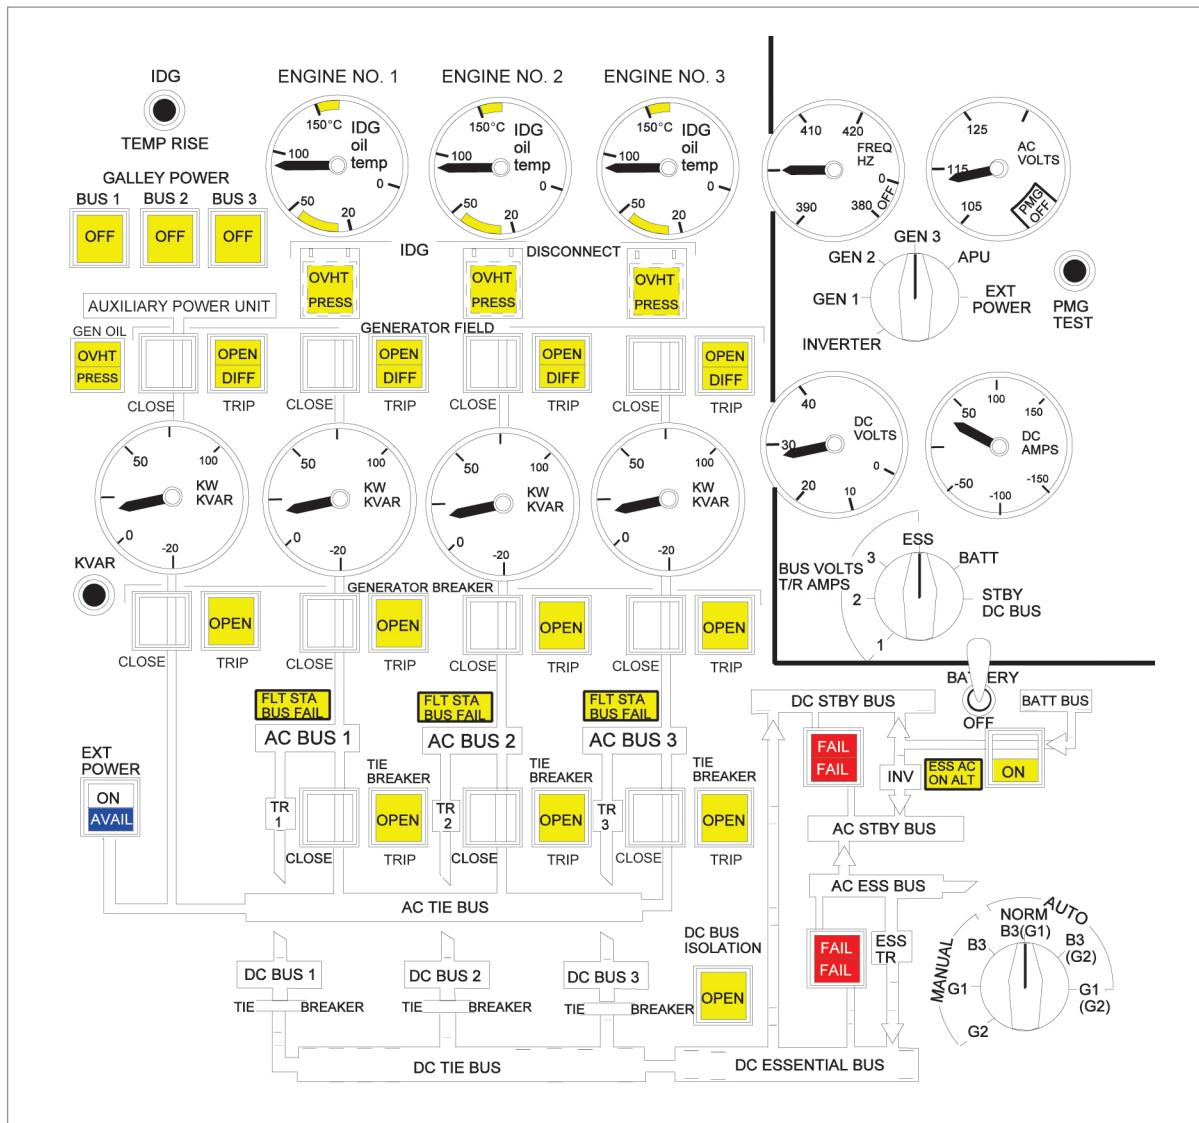

Figure 12.14 Control and indications for a three-engine parallel system
**Figure 12.14** shows typical controls and indications for a three-engine paralleled system. This type of panel uses “switch lights”. These are a combination switch and indicator, either having a momentary or alternate action e.g. push once to activate (generator disconnect switch) or push once to switch “on”, then push a second time to switch “off” (galley power on/off). The indicator shows switch position or system status.